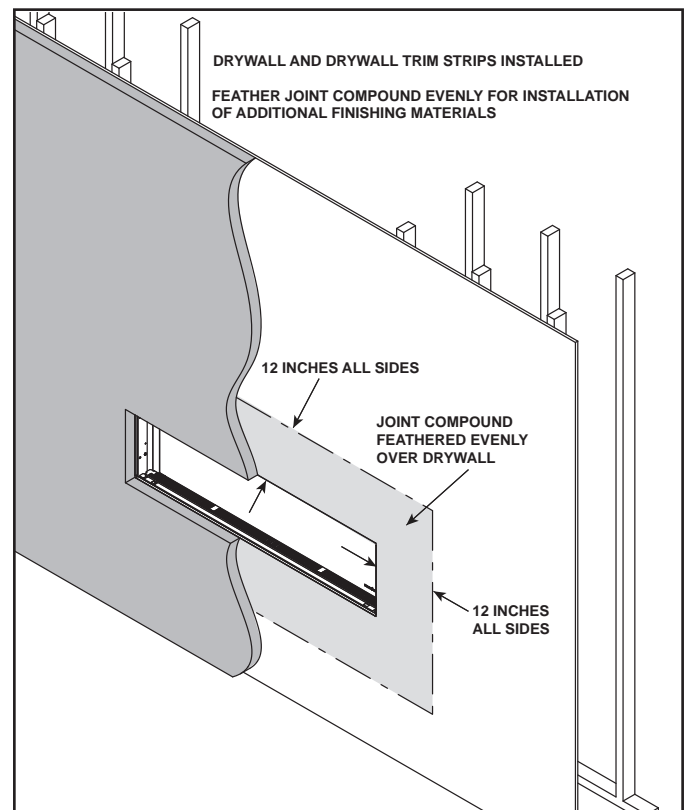

Figure 10.1
1. **Step 1:** Fill all gaps and joints between the non-combustible board pieces and the drywall with a general purpose chemically setting joint compound such as Durabond® 45 Joint Compound manufactured by USG (Sheetrock® brand), recommended by Hearth & Home Technologies. Use a drywall knife to firmly press the joint compound into all gaps. See Figure 10.1. Allow these joints to dry.
- Additional non-combustible finishing materials such as granite, stone or tile may be installed. For best results when using the provided drywall finishing strips, see Figure 10.1.